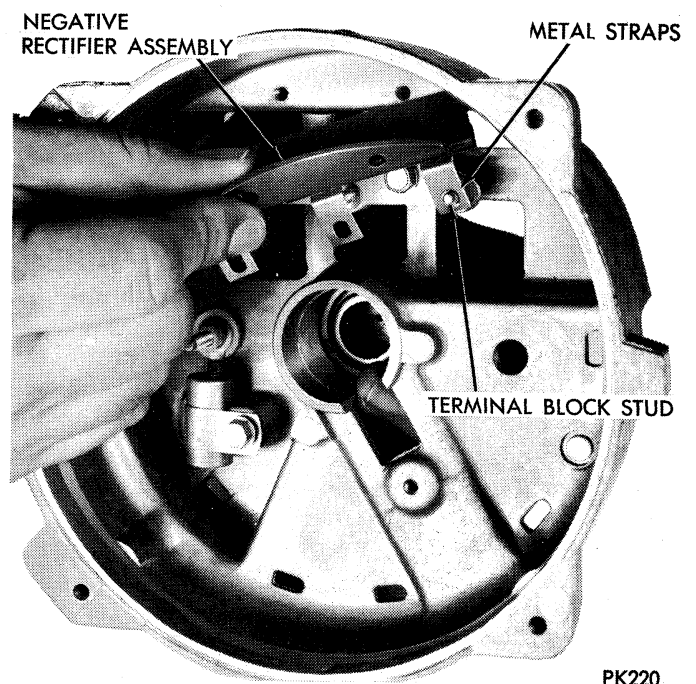
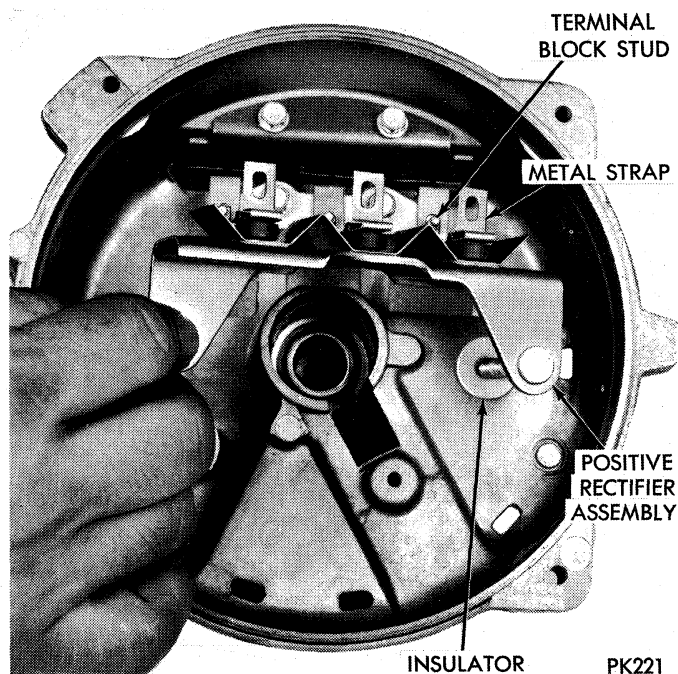

Fig. 64—Installing Negative Rectifier Assembly
Fig. 65—Installing Positive Rectifier Assembly
(7) Position negative heat sink assembly into place in end shield making sure metal straps properly position over studs on terminal block (Fig. 64).
(8) Install negative heat sink mounting screws and tighten to 30-40 in.-lbs.
(9) Install insulator on positive heat sink stud, position assembly into place in end shield making sure metal straps properly position over studs on terminal block (Fig. 65).
(10) From inside of end shield install insulator on